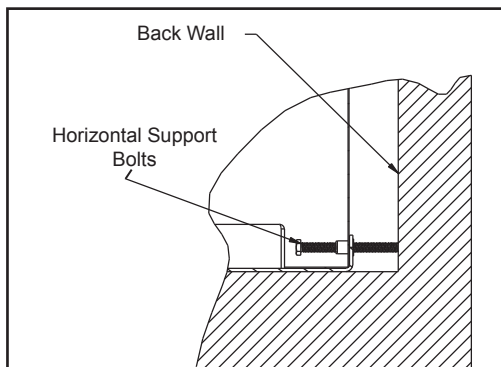

Figure 20.3
3. Thread the horizontal support bolts in until they hit the back wall of the fireplace to help secure in place. **Figure 20.3.**